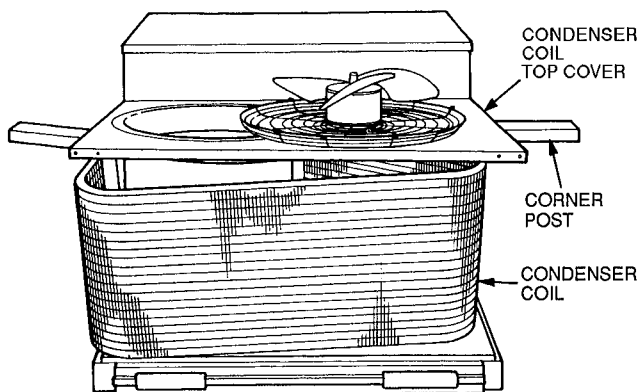

Fig. 31 — Propping Up Condenser Coil Top Cover
8. Use right corner post to prop up right side of condenser coil top cover. Slide condenser coil partially out of condenser fan housing. See Fig. 31.